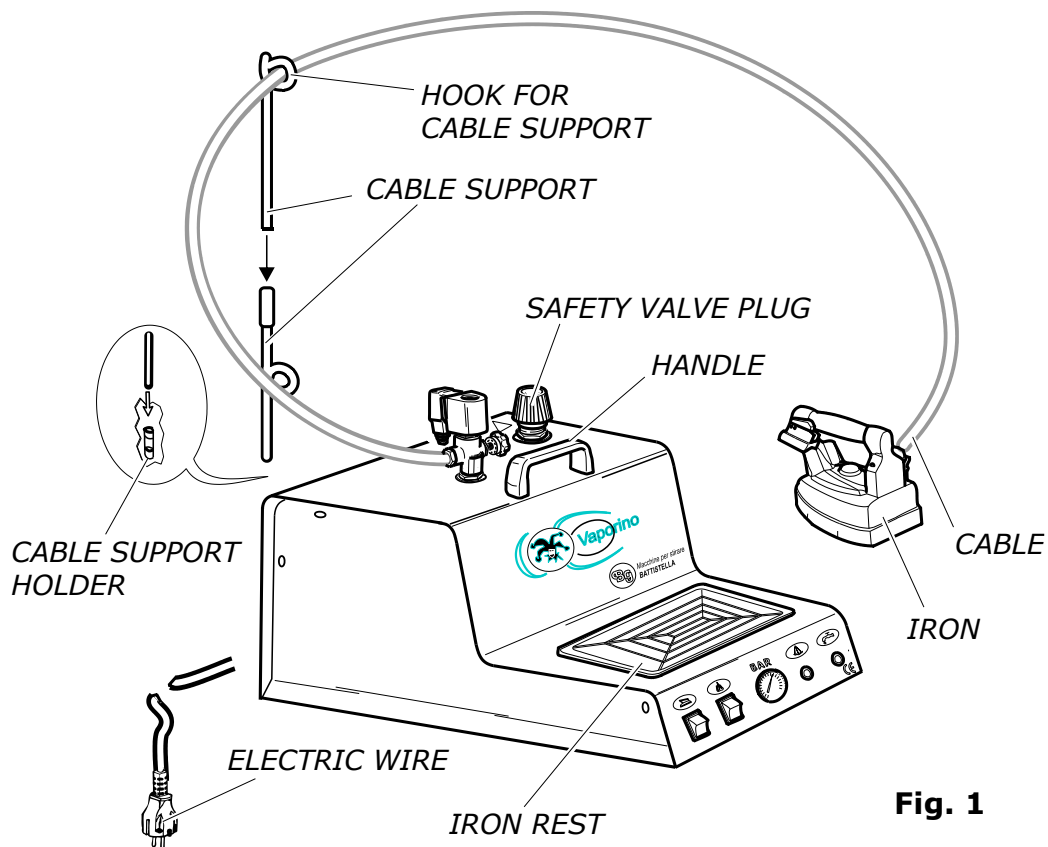
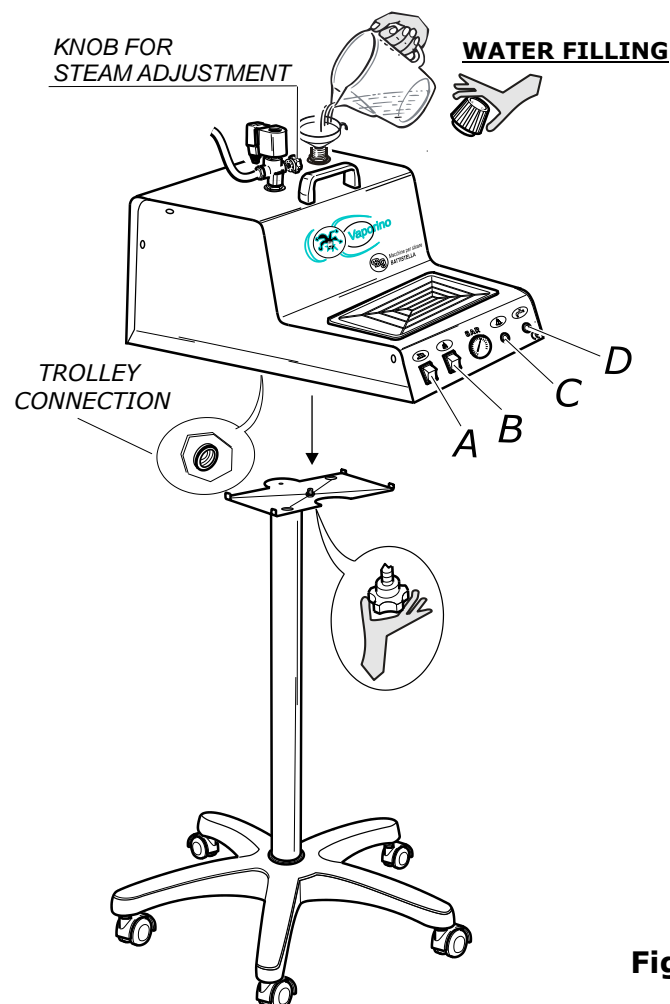
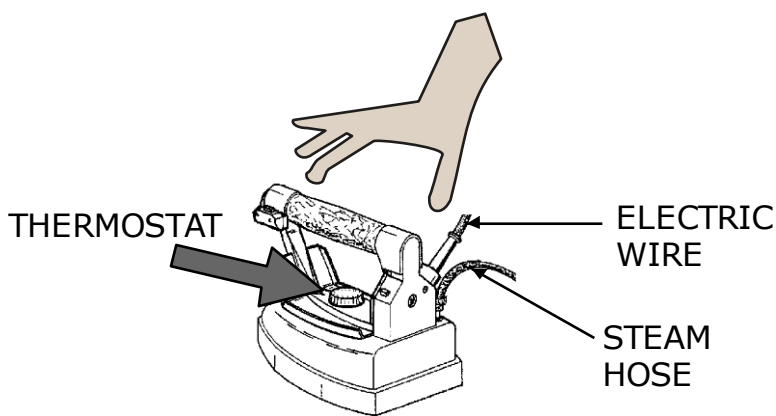
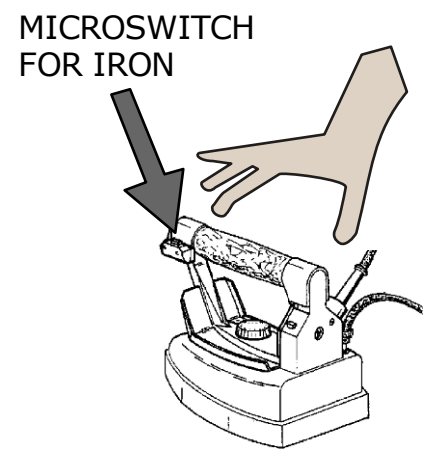

Fig. 1
Fig. 2
Fig. 3
Fig. 4
Before installing VAPORINO INOX MAXI, it is necessary to set up a protected electrical socket suitable to VAPORINO INOX MAXI power (it is better to use an earth protector magneto-thermic switch 16 A Id 30 mA). For the transport and the movement of VAPORINO INOX MAXI, take the generator only by the specific handle. Never pull its electric wires (fig. 1).
2. Remove VAPORINO INOX MAXI from the box, assemble the cable support and insert it deep into the special support holder placed on the back side of VAPORINO INOX MAXI (fig. 1).
4. Place the iron on the rubber iron rest supplied with the machine (fig. 1).
5. For VAPORINO INOX MAXI supplied with trolley: screw the trolley knob on the proper connection under the base of the VAPORINO INOX MAXI (fig. 2).
1. Unscrew the security valve plug of VAPORINO INOX MAXI (fig. 1) and fill the boiler with water to the desired level (fig. 2) paying attention not to overfill it. It is advisable to use a funnel. Take the plug by the plastic part and screw it again: do not tighten too much or its gasket might get spoilt (see section 7).
3. Switch on the boiler (fig. 2 B) and the iron switch (fig. 2 A) and adjust the thermostat of the iron (fig. 3) on "cotton".
4. Wait for the boiler lamp to switch off (fig. 2 C): the manometer should mark about 2,5/3 bar. At this point seize the iron by cork handle and press the micro-switch of the iron (fig. 4) for 4 or 5 times, so that steam comes out. It is important to make sure that the steam is saturated (by pressing the micro-switch with the iron pointed towards the floor). It is also possible to adjust steam flux by turning the regulation knob (fig. 2). Now everything is ready for ironing. During ironing operation, the boiler lamp switches on and off signalling that the machine is working properly (fig. 2 C).
11. **Never replace the safety valve plug (fig. 1) with other types of plug. N.B. the safety valve plug is set at 4,5 bar and it has the function of a safety valve.**
1. Run the iron on garments, pressing the micro-switch of the iron at intervals (fig. 4) so that steam comes out.
3. During ironing operation, always put the iron on its rubber rest (fig. 1).
4. For dry ironing it is possible to adjust the thermostat (fig. 3) on different positions according to the type of fabric (look at garment label). For steam ironing set the thermostat on "cotton" or "linen" (**N.B.:** the thermostat of TULIPANO irons must be set between "wool" and "cotton").
5. When VAPORINO INOX MAXI is used with a non-vacuum board, some circular water spots might form. In this case, reduce the steam flux through the hand-wheel for steam regulation (fig. 2). It is recommended to combine the machine with a vacuum and heated ironing board.
When the water in the boiler is over, the lamp "no water" (fig. 2 D) switches on. At this point disconnect the plug, rotate the valve plug (fig. 1) of 360° and wait for steam to go out completely (the manometer has to indicate 0 bar). Unscrew the valve plug with care and wait 5/10 minutes.
Then fill the boiler up to the desired level (fig. 2) paying attention not to overfill the water on it (see section 4 point 1). Screw the safety valve plug again, connect the plug and wait for the boiler lamp to switch off (fig. 2 C). Now the iron is ready again.
Unscrew the safety valve plug (fig. 1) and rotate the VAPORINO INOX MAXI rightwards so that water and possible impurities come out.
3. steam tube and iron cable once they seem damaged (fig. 3);
4. the safety valve plug every 2500 hrs. or maximum every 3 years (fig. 1).
6. iron overheating or loss of water from iron (fig. 3);